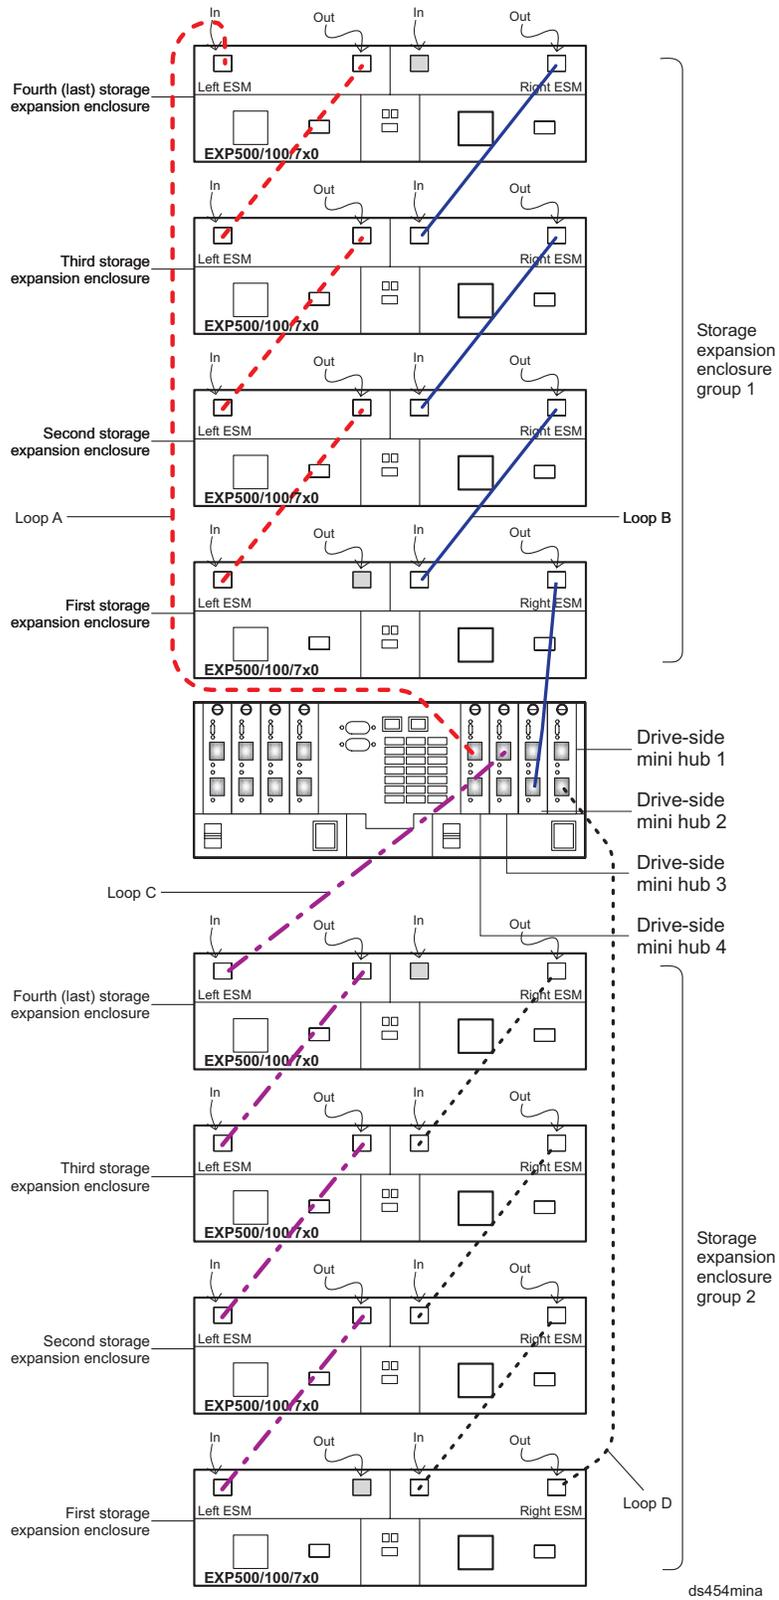

Figure 66. Connecting two redundant EXP500, EXP100, EXP700, or EXP710 storage expansion enclosure groups
3. Connect drive loop C to the DS4500 Storage Subsystem, as shown in Figure 66 on page 89.
4. Connect drive loop D to the DS4500 Storage Subsystem, as shown in Figure 66 on page 89.